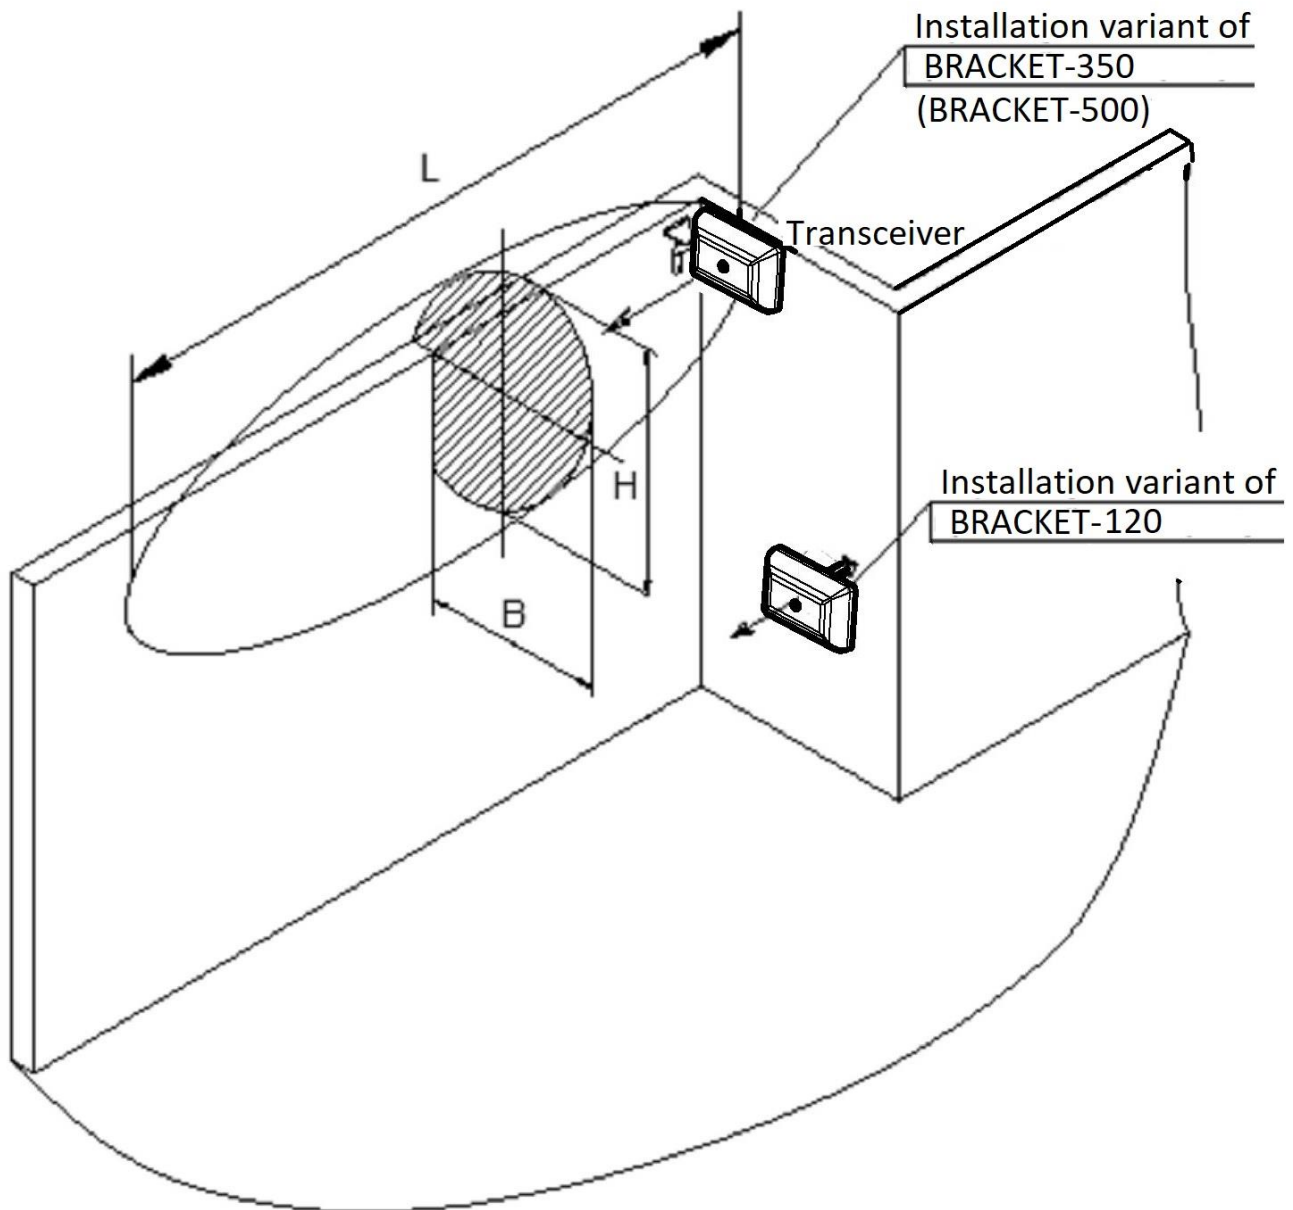

Figure 2.5 – Mounting of the sensor on brackets 500, 350, 120 mm
2.3.5.8 Figure 2.5 shows mounting of the sensor using brackets 500, 350 120 mm.